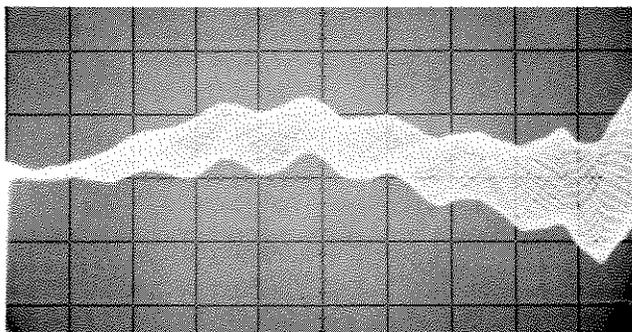

Figure 12. Typical Oscilloscope Display
- a. Set sweep oscillator for single-frequency (CW) operation at the center of the band under test.
- b. Locate a maximum in the standing-wave pattern. A maximum is the widest portion of the display (see Figure 12 for a typical display).